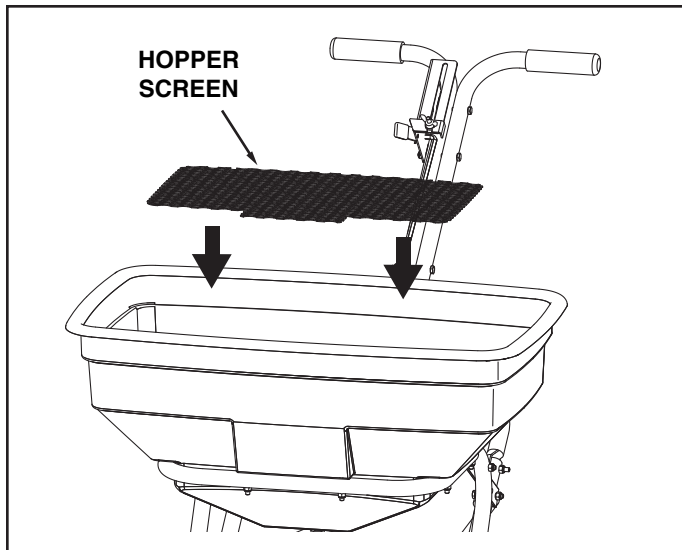

FIGURE 12
15. Place the hopper screen down into the hopper, sliding the ends into the clips in the hopper. The screen helps break up clumpy material and prevents large clumps from reaching the bottom of the hopper and clogging the opening. See figure 12.